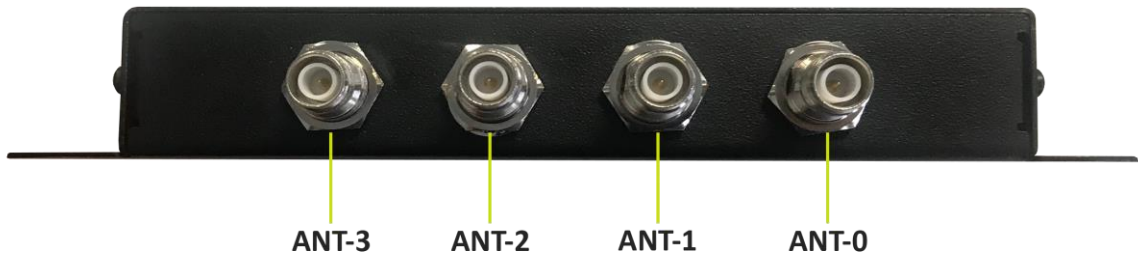

Fig. 3.6: Antennas
3. Connect the antenna cable to Ant-0 (see § *Fig. 3.6: Antennas* page 15) of the reader.